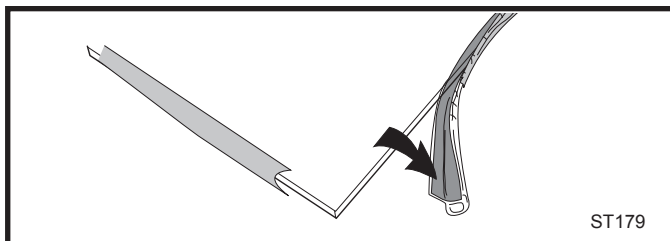

Fig. 83 Wrap the gasket material around the outside edge of the glass.
3. Starting on a long edge, remove about 6" of the protective paper strip and apply the flat adhesive face of the gasket around the outside-facing edge of the panel. Continue around the panel, applying about 6" at a time and being careful to not stretch the material. Do not overlap the gasket ends. (Fig. 83)